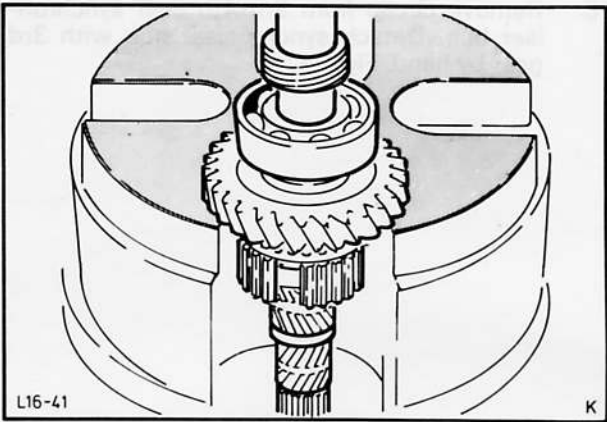

Fig. 34. Press off mainshaft bearing
21. Remove mainshaft bearing circlip at the rear. Press off ball bearing and speedometer worm gear, Fig. 34.